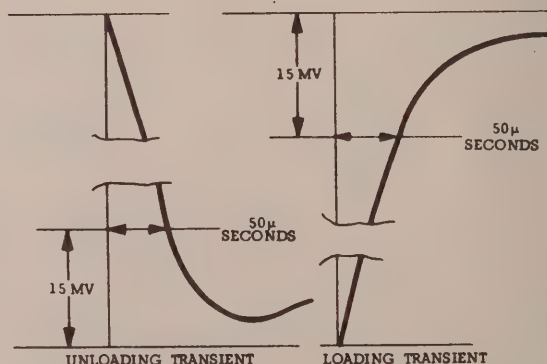

Figure 5-8. Transient Response, Waveforms
f. Adjust 25K potentiometer until a stable display is obtained on oscilloscope. Waveform should be within the tolerances shown in Figure 5-8 (output should return to within 15 mv of original value in less than 50 microseconds).